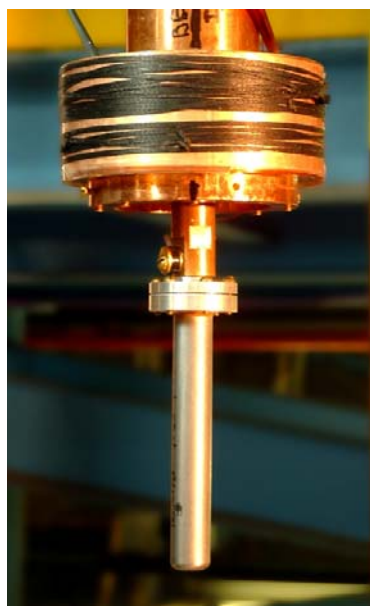

Figure 6: Mounted Sample Can
4. Turn the can no more that 1/8th turn after the flat surfaces of the can and cold finger meet. This equates to “hand tightened”. There should be no visible gap between the cold finger and the top of the sample can. See Figure 6.